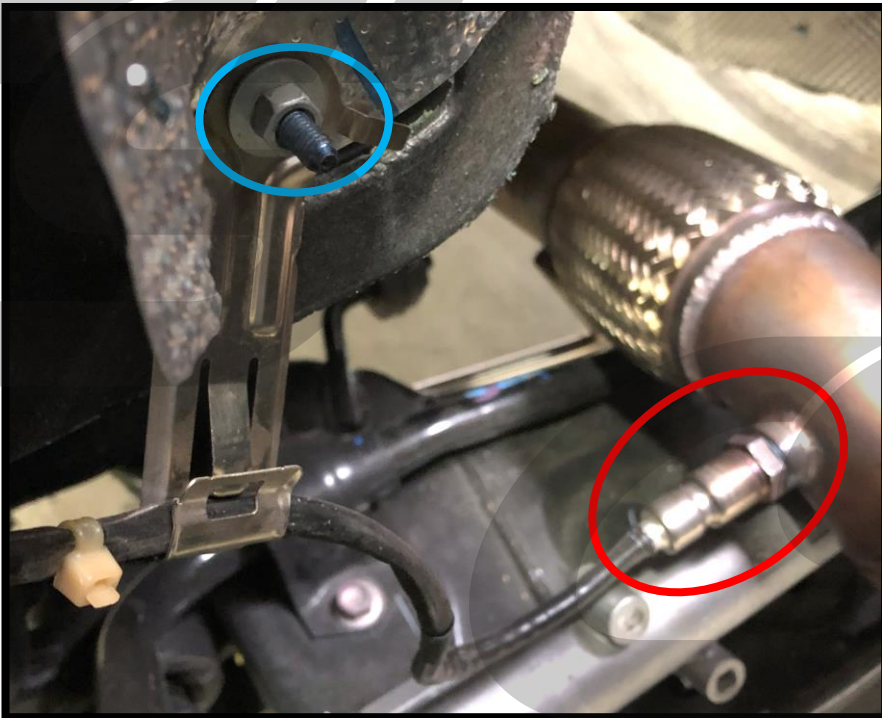

Figure 6a
- b) Install the O2 sensor into the port on the lower section of the CS header. Tighten roughly half a turn past finger tight. Shown installed and **circled in red** in **Figure 6a**.
- d) Secure the O2 sensor wiring using the firewall heatshield mounting stud on the lower passenger side. Use one of the OEM O2 sensor wiring brackets as shown **circled in blue** in **Figure 6a**. Ensure this keeps the wiring away from any hot surfaces or from rubbing on sharp edges.